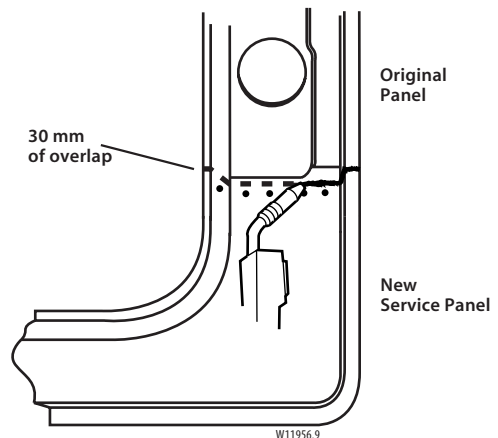

Figure 6-9:
3. Prepare mating surfaces and position the service section over the stepped tab on the original hinge pillar, allowing 30mm ($1\frac{3}{16}$ inches) of overlap (figure 6-9). Check fit using three-dimensional measuring equipment, check and make sure the door hinge bolt holes are properly located, and plug weld accordingly with frequent measurements to ensure proper fit.
4. Stitch weld along the entire joint. Make 25mm (1 inch) welds along the seam with 25mm (1 inch) gaps between. Then go back and complete the stitch weld. This will create a solid joint with minimal heat distortion (figure 6-9).